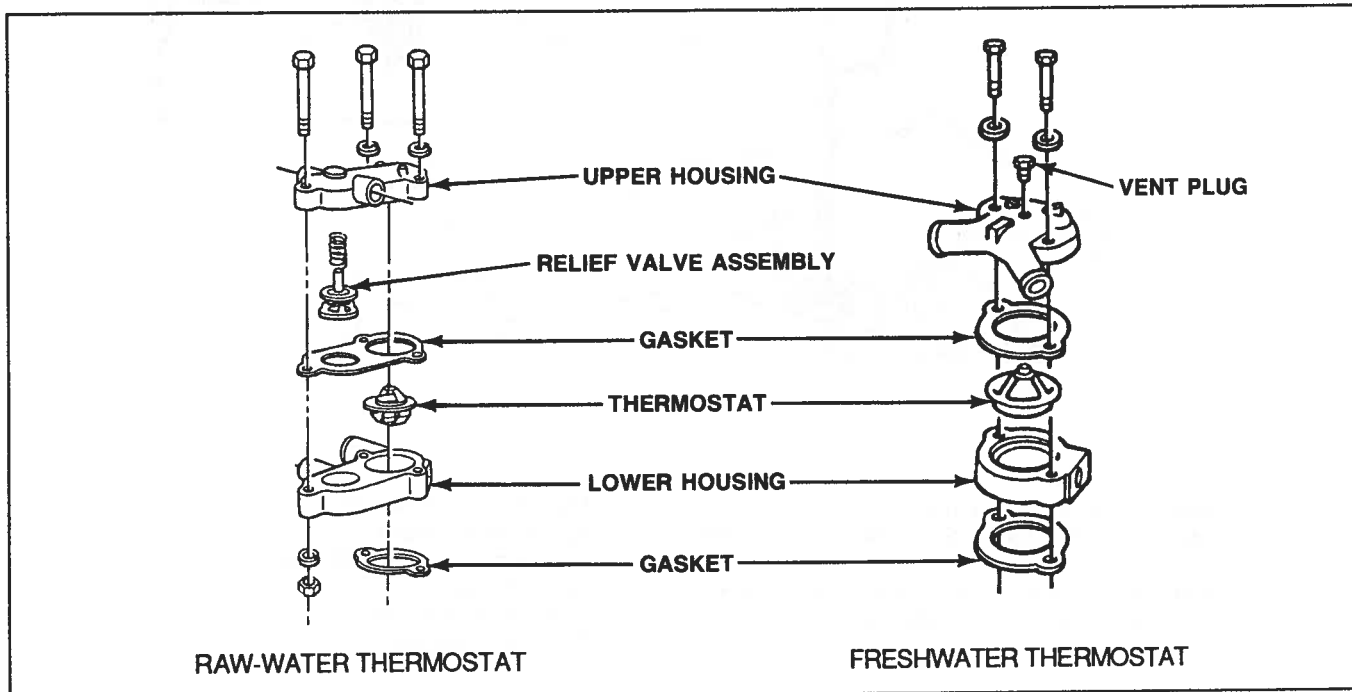

Figure 10-13. Thermostat Installation – All Models
3. Place thermostat in thermostat housing with thermostatic-element end toward engine. Be sure to position thermostat so that mounting flange fits into recess in thermostat housing (Figure 10-13).